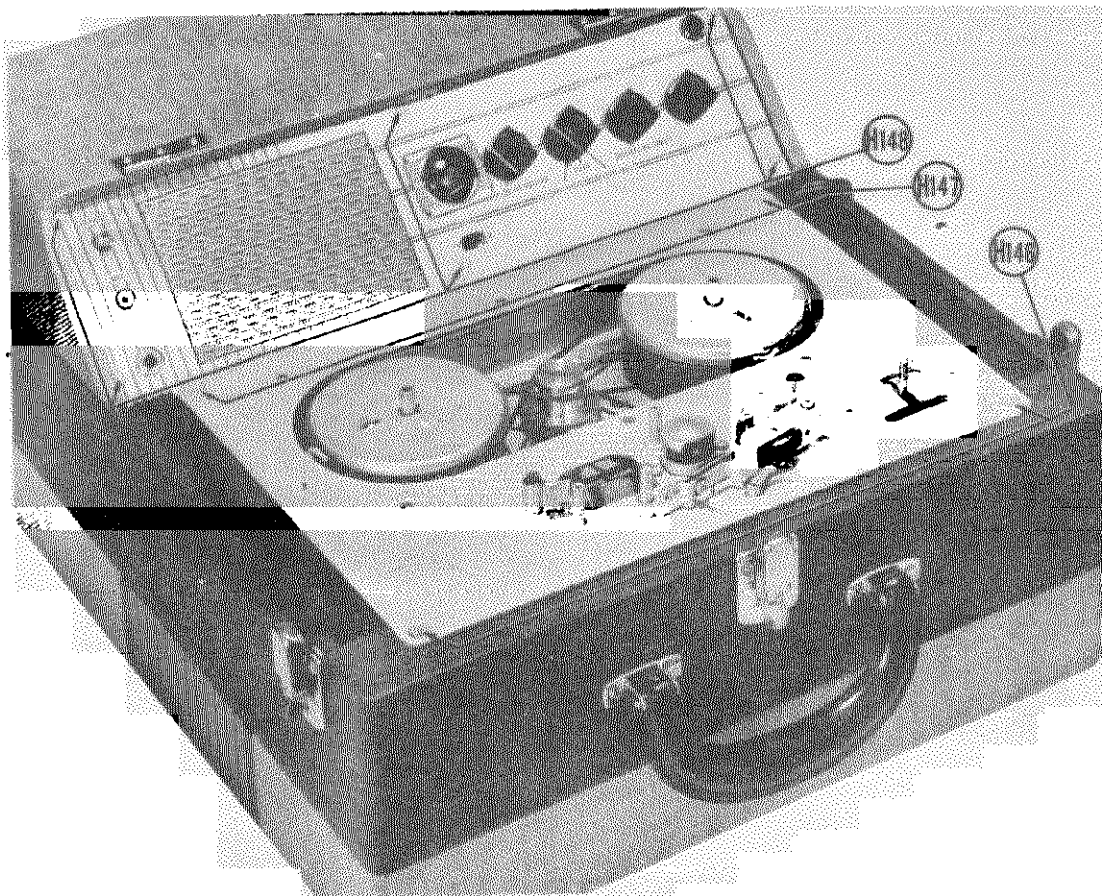

Fig. 44—Disassembly Step No. 2, 4 and 7
2. Remove the two screws (H-146) located at the front of mechanism panel. (See Fig. 44).
4. Remove the two screws (H-147) holding the mechanism to the hinge and lift the mechanism from the case. (See Fig. 44).
7. Remove the six screws (H-148) holding the amplifier trim panel in position. (See Fig. 44).